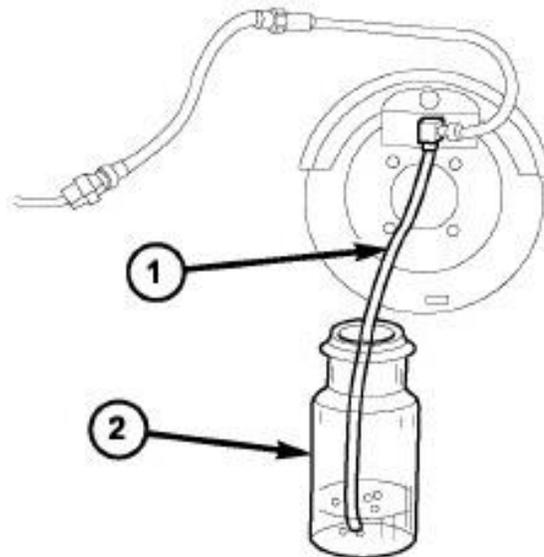

Figure 5 – Bleed Hose Immersed in Container of Brake Fluid
14. Attach one end of the bleed hose (1) to the bleed screw and insert the opposite end into a glass container (2) partially filled with brake fluid. Be sure the end of the bleed hose is immersed in fluid (Figure 5).